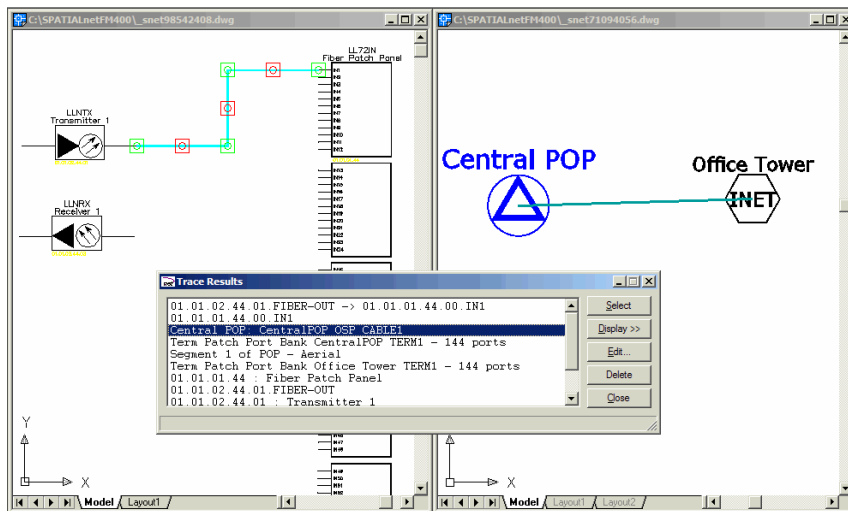

Figure 236 – Trace results showing tracing from ISP to OSP and into next building.
7. Click the **Trace** button. The system will begin at the selected inside plant jumper cable and work its way through the inside and outside plant networks. The physical path traversed by the trace is visually highlighted and a report is produced. Note in particular that the trace begins inside the **Central POP** building, travels along the OSP cable, and ends at the **Office Tower** building. The results are shown in Figure 236, below.